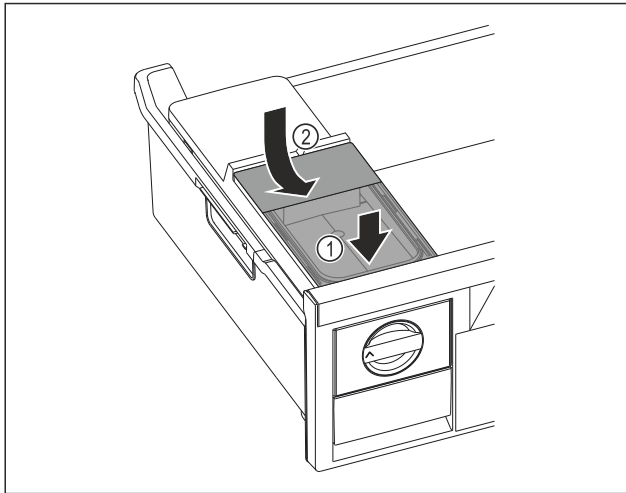

Fig. 122
- ▶ Position the water tank at the front. Fig. 122 (1)
- ▶ Lower the water tank at the rear. Fig. 122 (2)